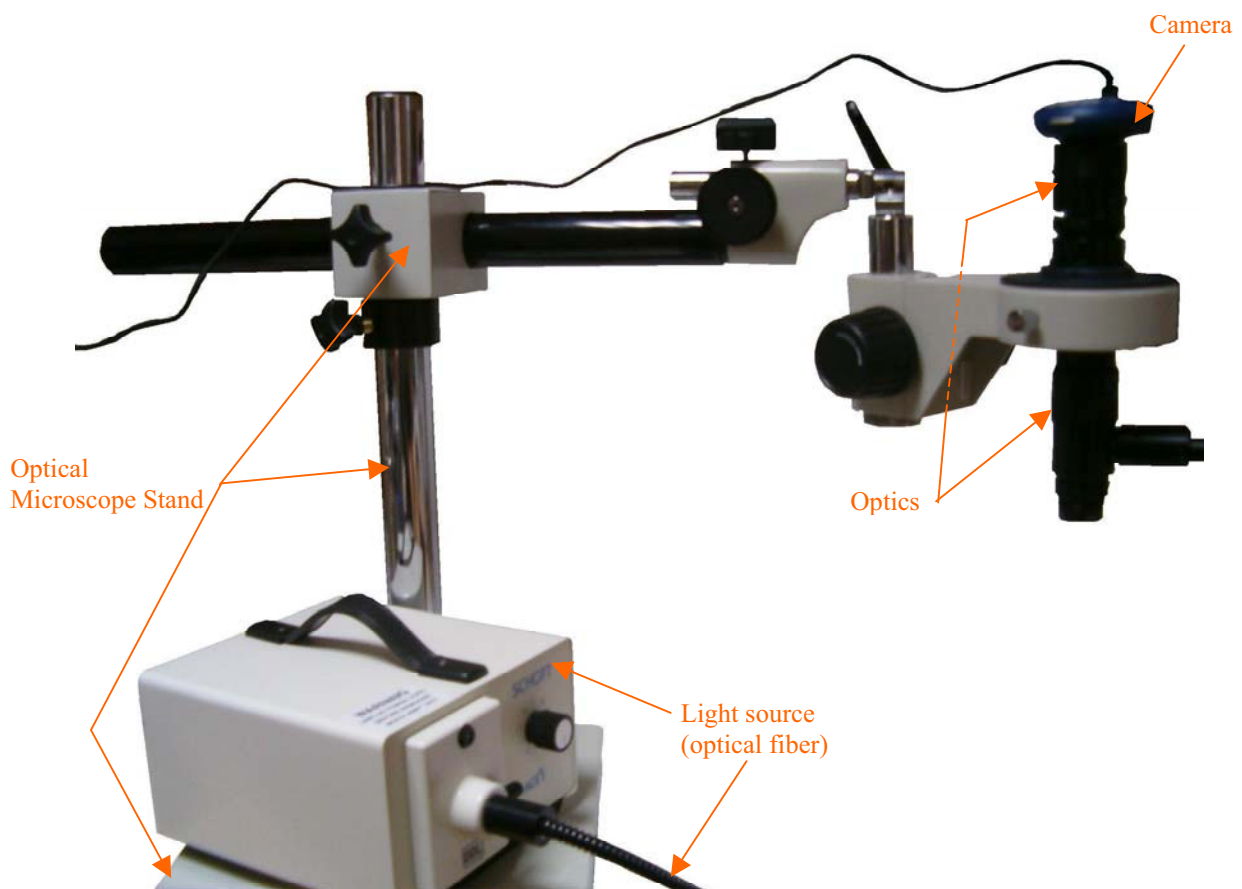

Fig. 3.1 Optical Microscope
- Place the “arm” of the stand, (the long, black cylinder part 3.a), into the orifice of the grey block that comes with the leg (part 3.b). This grey support block is fixed to the leg by means of one of the two screws equipped with black knobs that come separately. This screw is the one that enables the horizontal movement of the optical microscope when it comes over the AFM head. Make sure the part that supports the grey block to the leg (black cylindrical part with a manual screw, part 3.c) is very well fixed, because it is the part that supports all the weight of the optical microscope. The other manual screw with a black knob is used to fix the arm to the grey block. In order to balance the microscope system, it is recommended to position the grey block in the middle of the arm (as shown in Fig. 3.1).